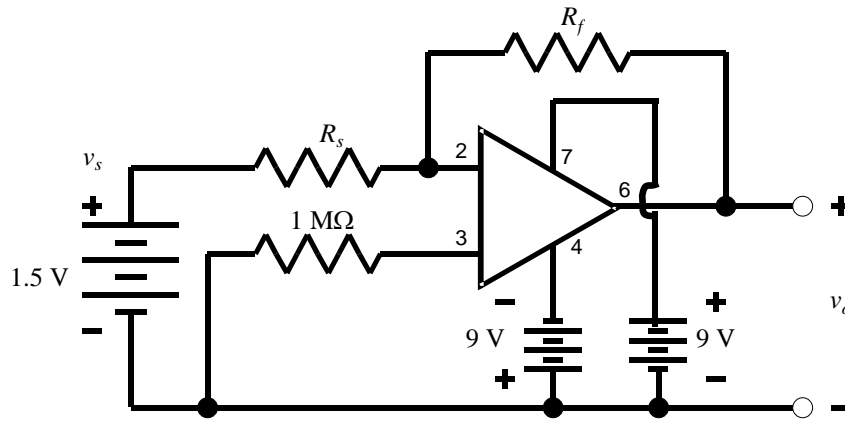

Figure P1-1 Inverting amplifier.
Construct the circuit of figure P1-1.
**1.a (20 points)** Use the circuit of Figure P1-1 to fill out Table P1-1.
Then insert each combination of resistor values in the circuit of Figure P1-1 and measure the battery (source) voltage,  $v_s$ , and the output voltage  $v_o$ . Compute measured gain as output over input, or  $v_o/v_s$ .
**1.b (5 points)** Use the resistances from the first line of Table P1-1 in the circuit of Figure P1-1. Find the Thévenin equivalent resistance seen from the output of the circuit (i.e. by the load resistance, if there were one) by measuring the output voltage while open circuited, and then measuring the output voltage with a resistance across the output. Do NOT short circuit the output. Use a minimum of 1 k $\Omega$  resistance. Compute the maximum possible value of the Thévenin equivalent resistance considering meter accuracy. Compare with the 1.5V battery Thévenin equivalent found in Laboratory 2. Which is a better voltage source?
**1. c (5 points)** Use the resistances from the first line of Table P1-1 in the circuit of Figure P1-1. Find the Thévenin equivalent resistance seen by the input to the op amp circuit (i.e. the 1.5 V battery). Measure the voltage and current